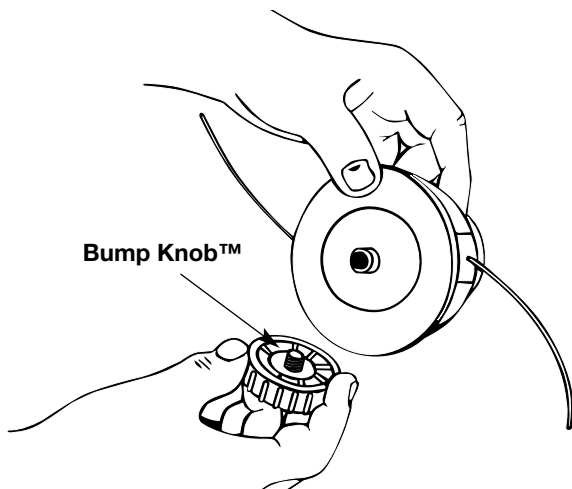

Fig. 21
1. Hold the outer spool with one hand and unscrew the Bump Knob™ **counterclockwise** (Fig. 21). Inspect the bolt inside the Bump Knob™ to make sure it moves freely. Replace the Bump Knob™ if damaged.
1. Hold the outer spool with one hand and unscrew the Bump Knob™ **counterclockwise** (Fig. 21, Pg 17). Inspect the bolt inside the Bump Knob™ to make sure it moves freely. Replace the Bump Knob™ if damaged.